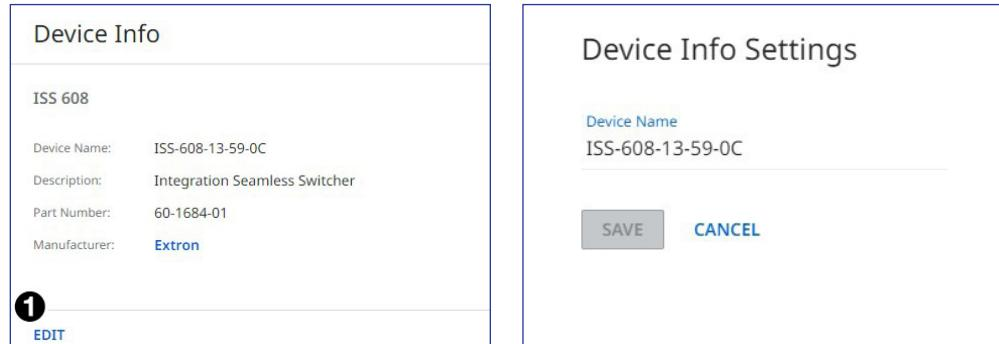

Figure 42. Device Info Panel
1. Click **EDIT** (see figure 42 [left], ①) in the **Device Info** panel. The **Device Info Settings** panel opens to allow edits (right).